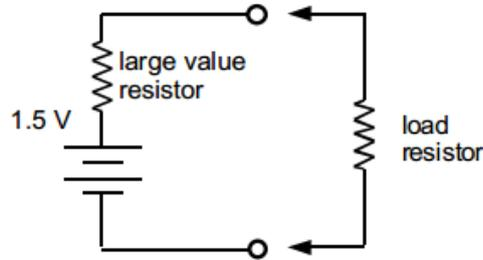

Figure 6
- Connect a 1.5 V battery and a large-valued resistor (10 kΩ or higher) to make a current source. For a load resistor, use the decade box (choosing values ranging from 0.1 to 2.0 times the value of the large resistor), as shown in Figure 6.